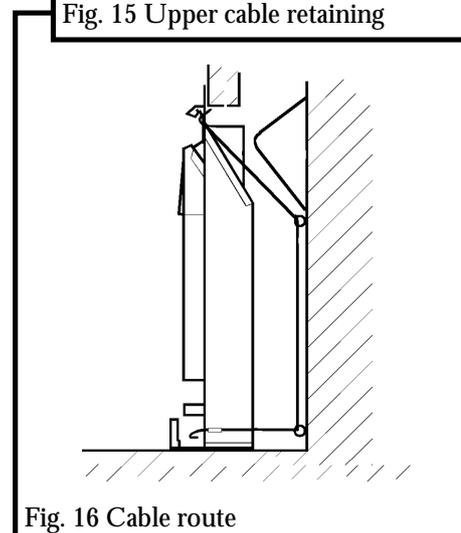

Fig. 16 Cable route
7.2.5 Thread the cables through the upper eyebolts in the rear wall and then through the lower eyebolts. Return the cables through the holes near the bottom of the convection box back panel and through the "V" shaped brackets near the bottom front sides of the convection box (see figure 16).